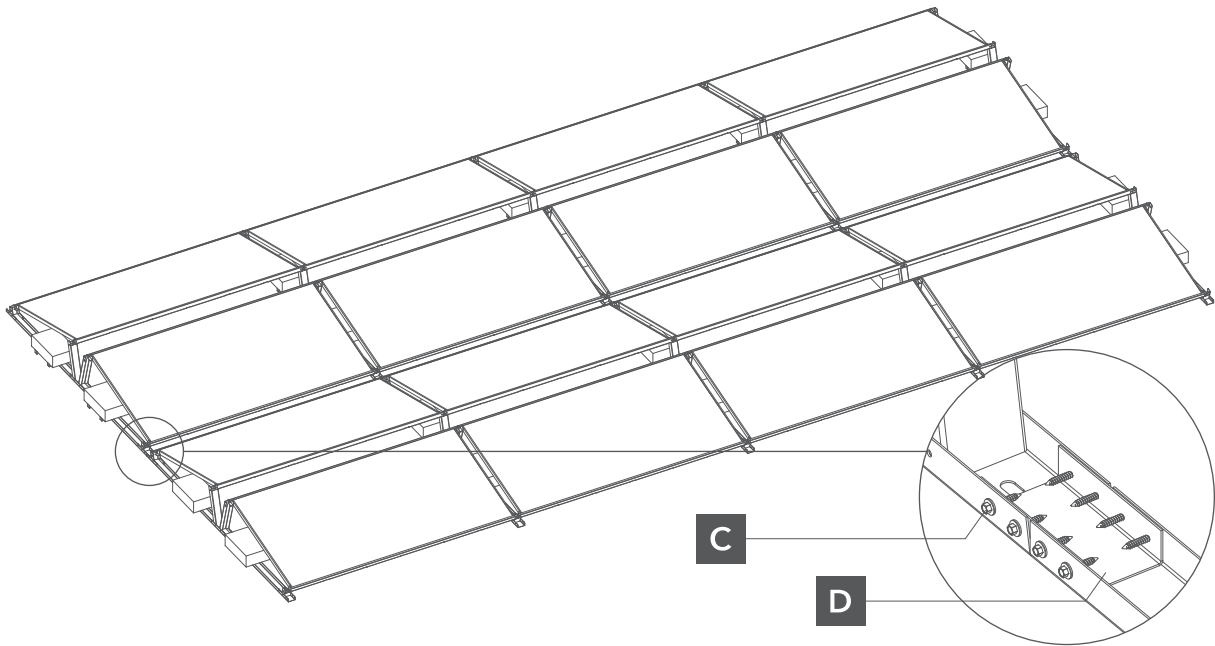

Fig. 5 Connecting the mounting triangles with a connector
- 5** If two or more rows of photovoltaic modules are to be installed, the mounting triangles must be connected with a connector (Fig. 5).